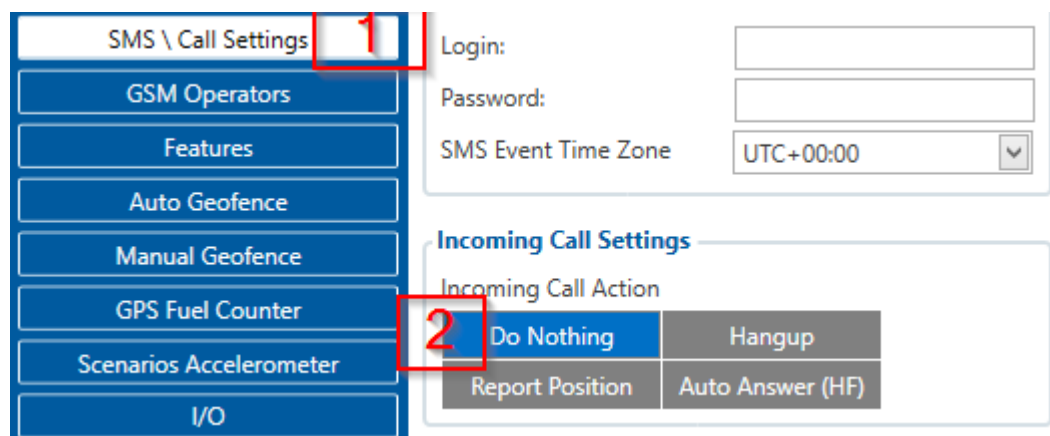

Figure 35 Incoming Call Action settings
9. Go to “**SMS \ Call Settings**” in left menu and set “**Incomming Call Action**” to “**Do Nothing**” visible at Figure 35.